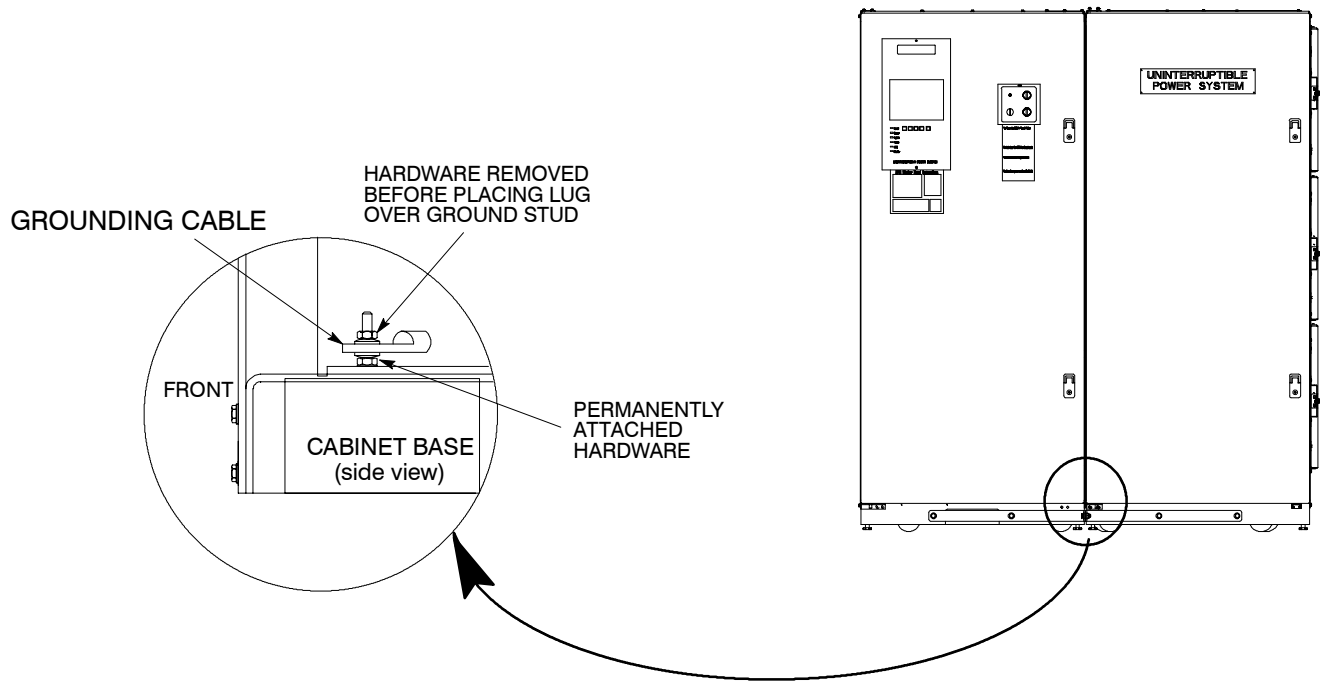

Figure 5. Cabinet-to-Cabinet Grounding
Open the door of each cabinet. Locate the grounding stud at the front/side of each frame. Remove the top nut, lock washer, and flat washer from each stud (if attached, see Figures 5).
2. Mount the grounding cable as shown in Figure 5, attaching it to the frame of each cabinet using the hardware previously removed.